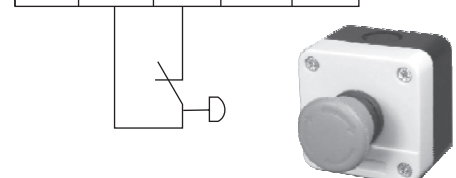

Figure 10
Note- When using the security system it is important to accurately set the motor run timer. operate the door from the fully closed to the fully open position and adjust the run timer so that the circuit board "open" LED goes out five seconds after the door arrives at the fully open position. See Fig 10
15.4 Dip switch 4 Auto- Close. This option is normally turned off. Turning on Dip switch 4 selects an automatic time delay self closing function. The time delay begins when the door is fully open and is reset if the photoelectric safety beam or light grid is activated. The auto-close delay is dependant upon door size and operating speed. Set the motor run timer as described in "security", the corresponding auto close delay is shown in Fig 10.